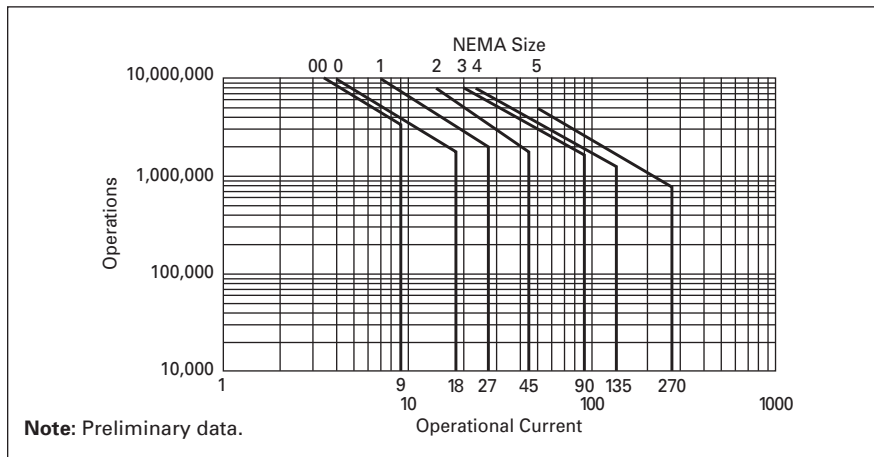
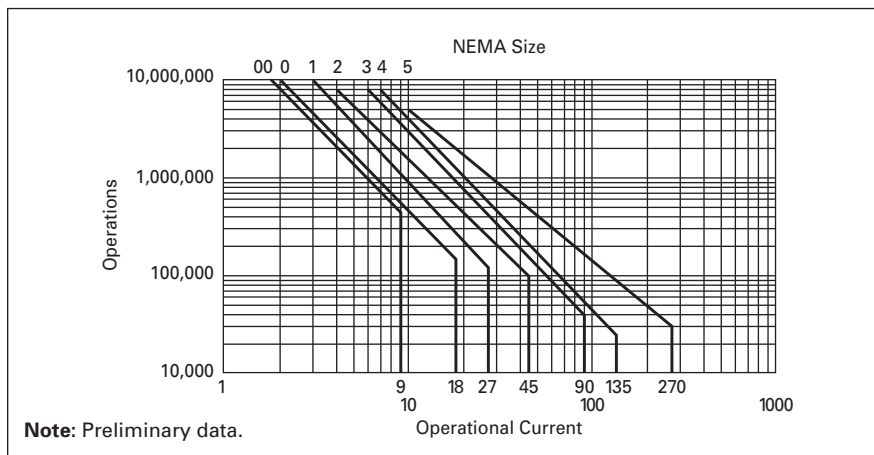

Figure 18-1. Electrical Life — AC-3 Utilization Category
Figure 18-2. Electrical Life — AC-4 Utilization Category
- Decide what utilization category the application is and choose the appropriate curve from Figure 18-1 or Figure 18-2.